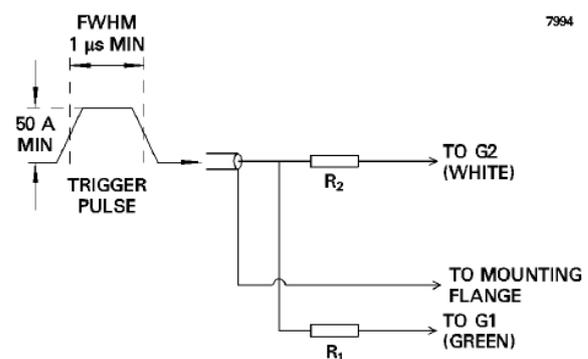
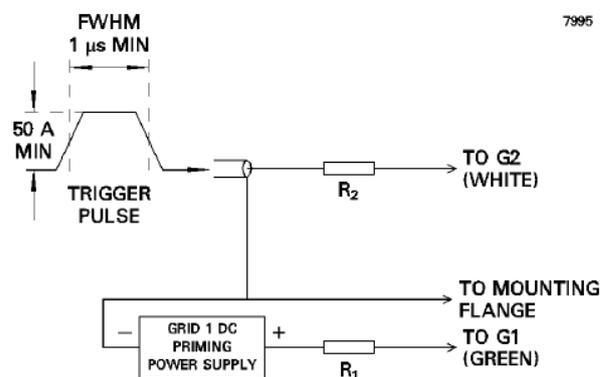

Fig. 2a: Trigger Connections for Pulse Shared between Grid 1 and Grid 2
Fig. 2b: Trigger Connections for DC Priming of Grid 1, with Pulse Applied to Grid 2
The HX3020 incorporates two trigger electrodes and there are two alternative methods recommended for triggering. Fig. 2a shows the simplest method, where the applied pulse is shared between grid 1 and grid 2 with suitable series grid resistors. Fig. 2b shows an alternative method whereby a DC priming current, derived from a simple DC power supply, is applied to grid 1. The trigger pulse is applied to grid 2.
Grid 1 DC Priming Requirements (see note 9 and Fig. 2b)
- The magnitude of the grid 1 DC priming current is determined by the series grid resistor (see Fig. 2b).